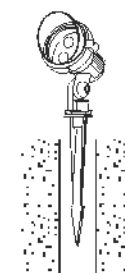

图 1/Picture 1
- 1、用螺丝将固定件固定到墙上,如图1所示。
1. Will be fixed by screws is fixed to the wall, as shown in figure 1.